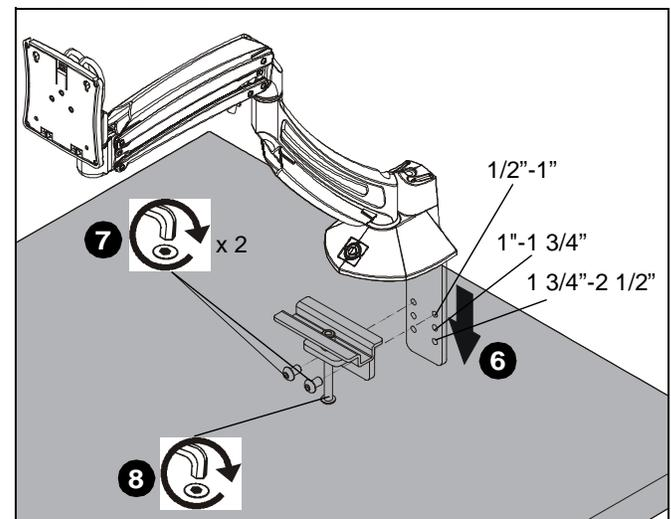

Figure 4
6. Slide upper bracket behind desk. (See Figure 4)
7. Use two screws removed in Step 3 to reattach lower bracket to upper bracket. (See Figure 4)
8. Tighten bolt on lower clamp to fully secure clamp to desk. (See Figure 4)